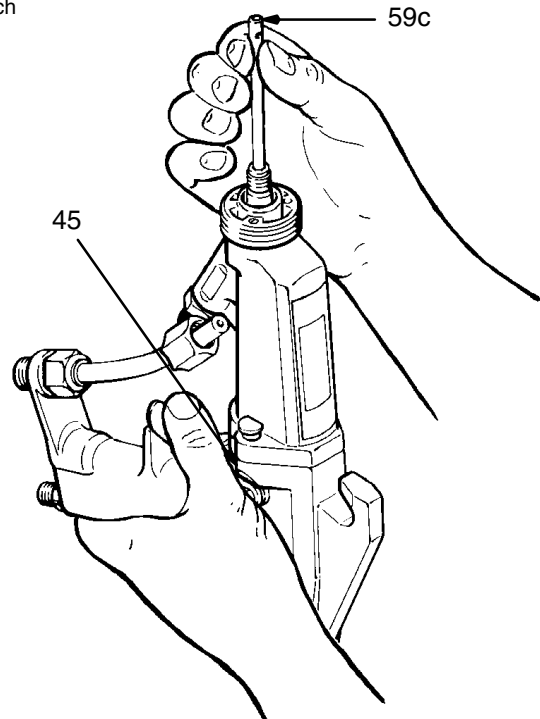

Fig 10
2. Unscrew and remove the electrode (12) with the wrench (59c) supplied. See Fig 10. If the needle shaft assembly (45) turns while trying to loosen the electrode, hold the needle shaft assembly nut with a small wrench.
3. Install the new electrode (12) with the wrench (59c) supplied. Do not overtighten.